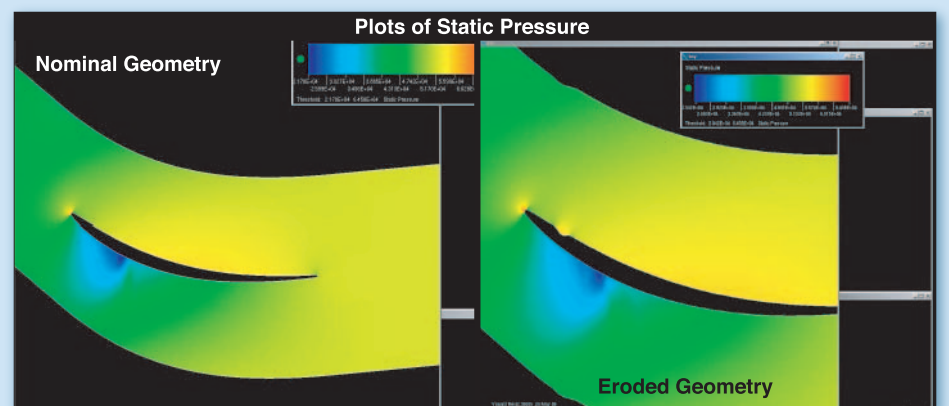

Fig.5 Robust Shape Optimal Design
- Robust shape optimal design (Appu Kumar – Fig.5)